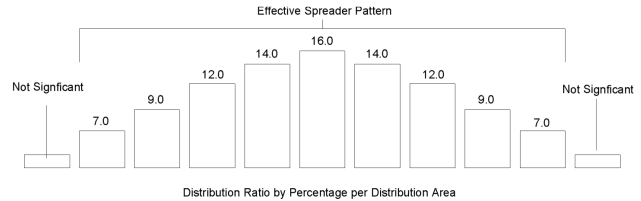

FIGURE 13A, Spread distribution
- The distribution pattern should be balanced as in **FIGURE 13A** with a higher amount of product, collected in the center pan and tapering off equally to both sides. **NOTE:** The distribution pattern shown in **FIGURE 13A** represents an ideal pattern, which will not be reproducible in the field. The numbers are used for reference only.